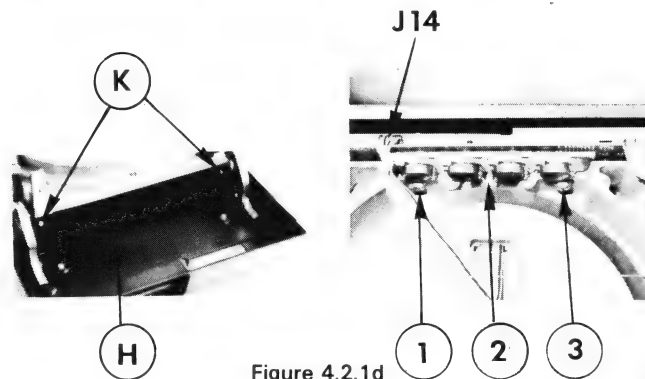

Figure 4.2.1d
Disassembly see figure 4.2.1d
- Disconnect connector J14. (Figure 4.2.1d).